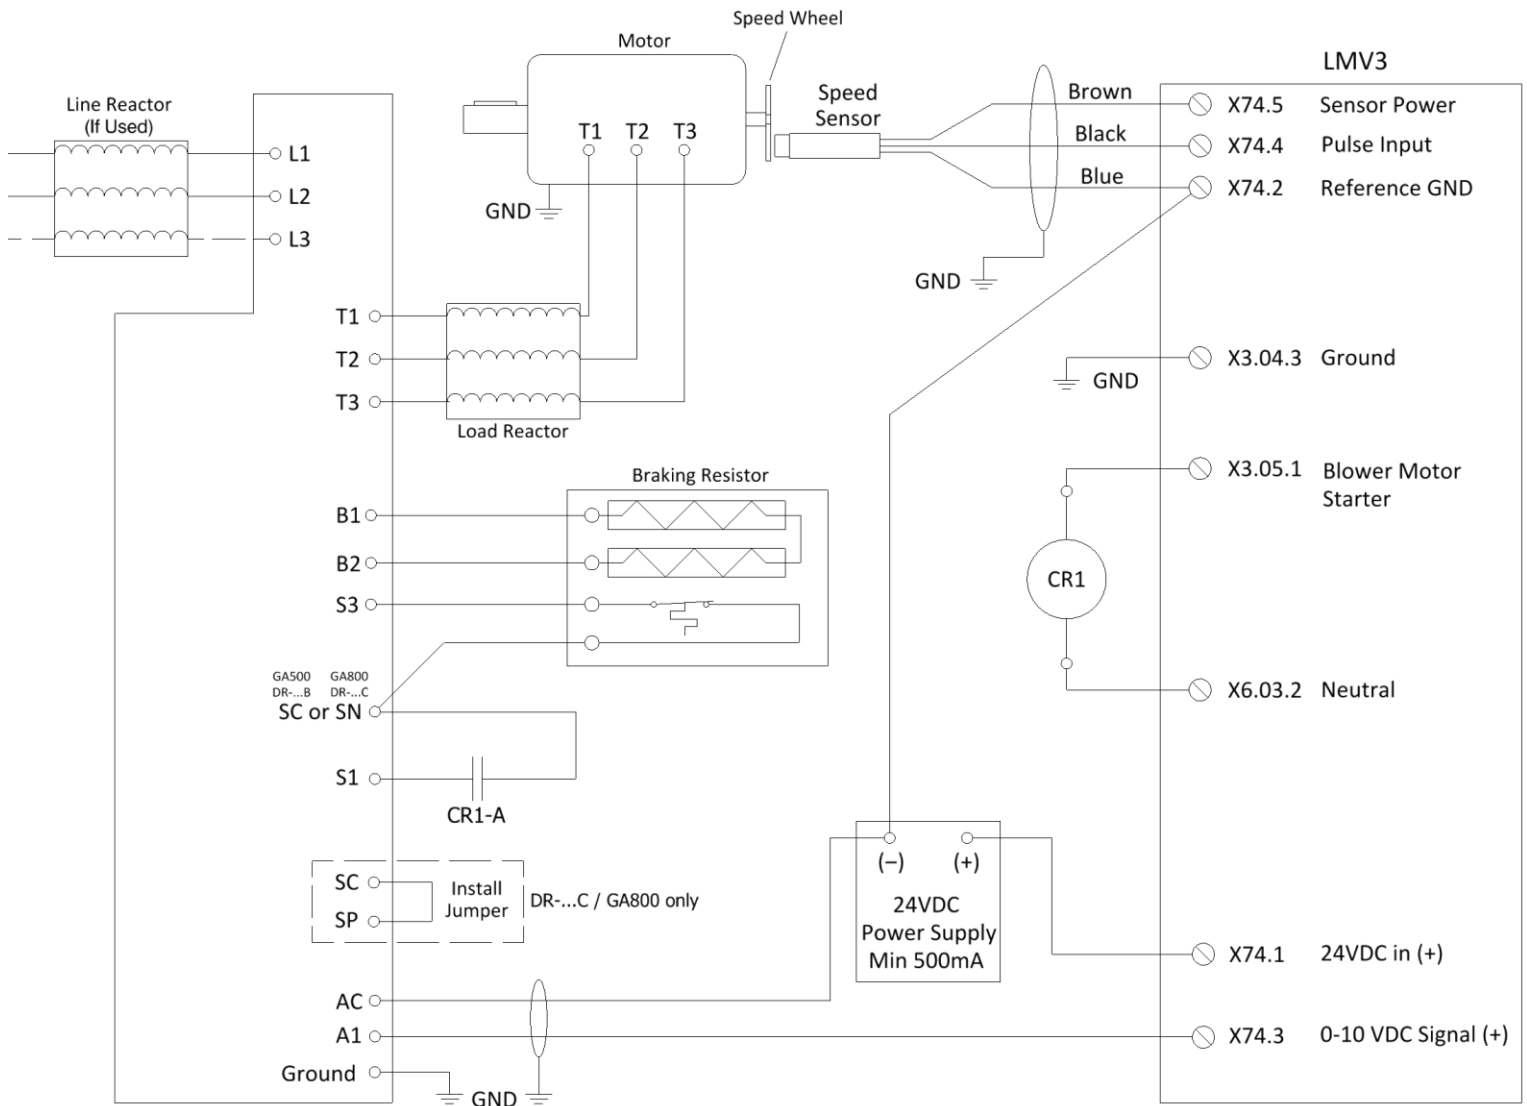

Figure 53: LMV3 Wiring to DR...B (GA500) OR DR...C (GA800) Drives
- If using a GA800/DR-...C the jumper must be installed as shown in Figure 53